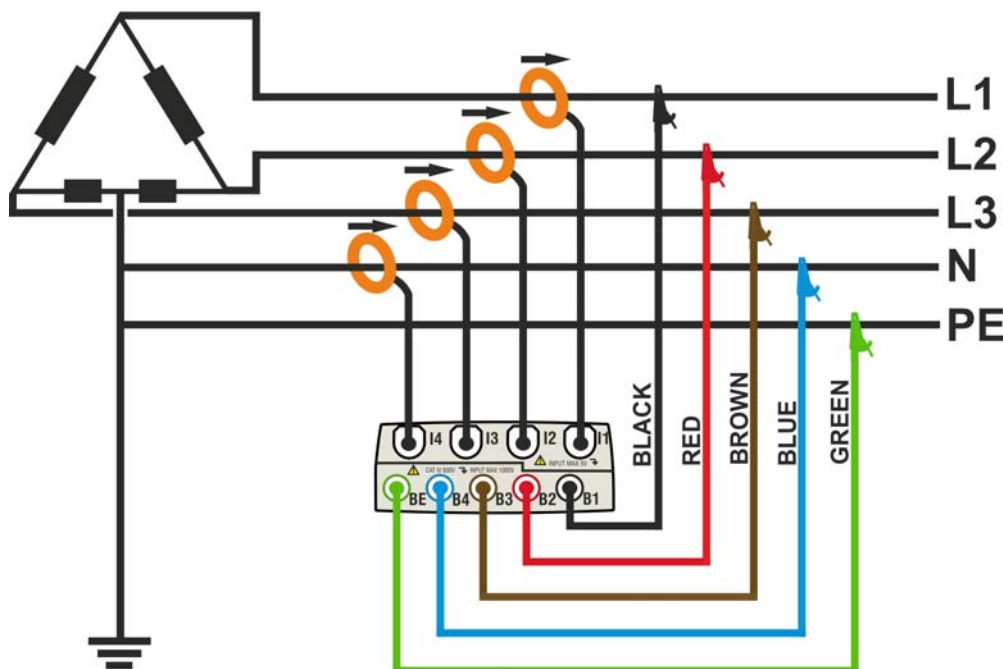

Fig. 122: Meter connection in a three phase 4-wire 3P HL system – ENG type
2. Connect voltage test leads on Phases L1, L2, L3, N and PE cables considering the colours as shown in Fig. 122. **Verify the result “123” at display relative to a correct phase sequence indication** (see § 5.2.1) and perform the corrections if necessary.
3. Connect the transducer current clamps on Phase L1, L2, L3 and N cables as shown in Fig. 122 respecting the clamp's arrow direction indicating the current standard sequence from generator to load. **On Real Time Values' section screens (selecting a 3 wire system preliminarily) always verify the positive value of Active Power and the power factor relative to load which should be normally inductive** before starting a recording. Reverse the clamp by 180 degrees on cables in case of negative readings.